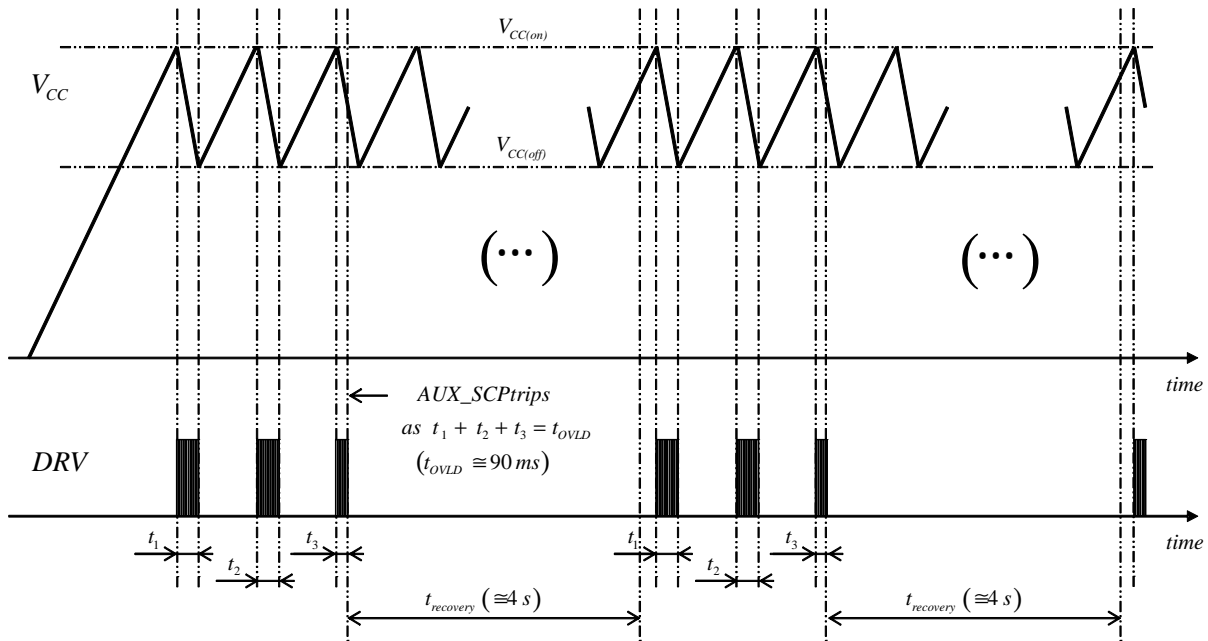

Figure 60. Start-up Sequence in a Load Short-circuit Situation (auto-recovery version)
- If the load is shorted, the circuit will operate in hiccup mode with  $V_{CC}$  oscillating between  $V_{CC(off)}$  and  $V_{CC(on)}$  until the AUX\_SCP protection trips (AUX\_SCP is triggered if the ZCD pin voltage does not exceed 1 V within a 90-ms operation period of time thus indicating a short to ground of the ZCD pin or an excessive load preventing the output voltage from rising). The NCL30188A latches off in this case. With the B version, the AUX\_SCP protection forces the 4-s auto-recovery delay to reduce the operation duty-ratio. Figure 60 illustrates a start-up sequence with the output shorted to ground, in this second case.